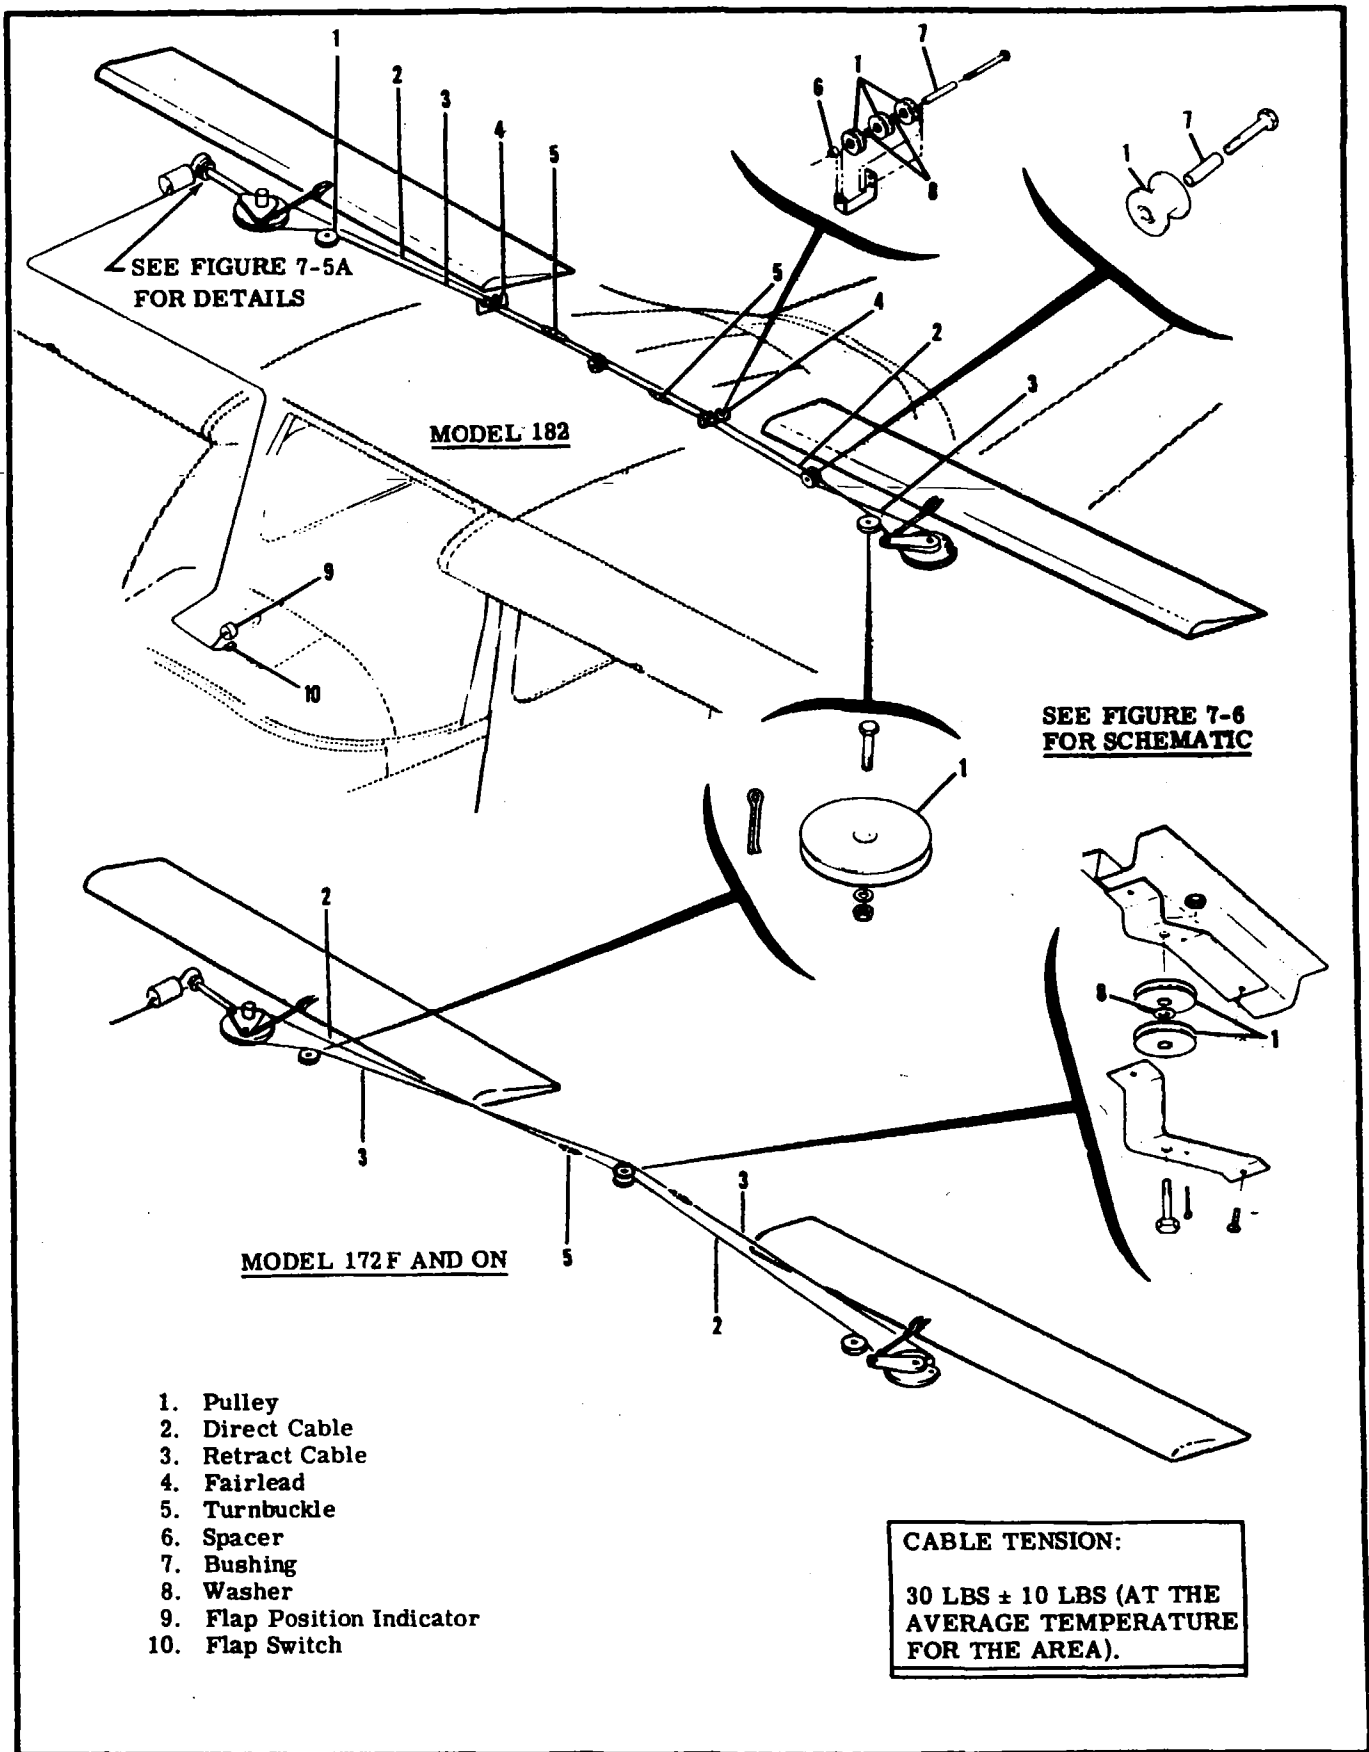

Figure 7-5. Wing Flap Control System - Electric (Sheet 1 of 2)
- 7-17. WING FLAP CABLES AND PULLEYS REPLACEMENT.** Replacement of wing flap cables and pulleys may be accomplished using figure 7-5 as a guide. Refer to paragraph 7-18 or 7-19 for correct cable attachment.
- 7-18. RIGGING ELECTRIC WING FLAP SYSTEM - MODEL 182 SERIES (Prior to 1968) AND MODEL 172F AND ON (See figure 7-5.)**